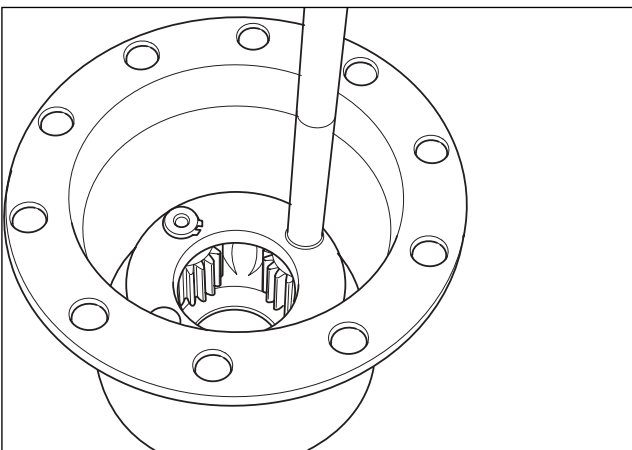

Fig. 14
Press out the journal pins (20) using a suitable drift fig. 14.